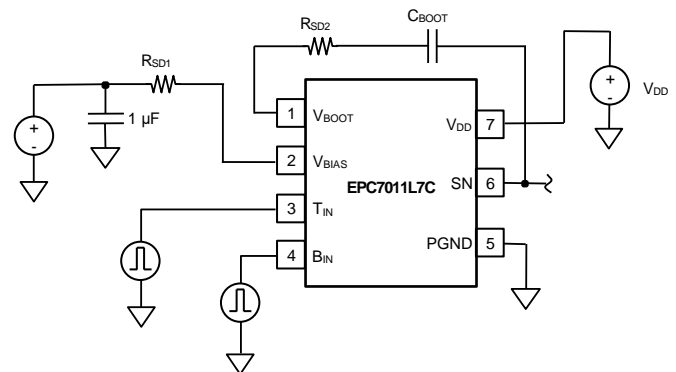

Figure 3. External Damping Resistor Connections
The EPC7011L7C is designed to be a high-speed power driver. As such it has extremely fast switching node (SN) rise and fall times by design. Fast rise and fall times can and will result in unwanted voltage spikes at the V_{DD} and PGND pins due to any parasitic layout inductance ($V_{SPIKE} = L_{Par} \cdot di / dt$). If these spikes cannot be reduced to an acceptable level through PCB optimization, two resistors may be added to provide the necessary damping to the local supply loop. These resistors, R_{SD1} and R_{SD2} are shown in Figure 3.